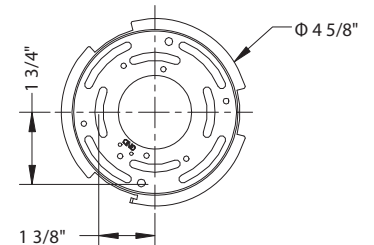

Fig. 3
10. Due to limited space within the canopy, shorten the cable as necessary to make the installation easier. Make sure to identify and label all the wiring properly before any trimming/shortening. (Fig. 3)
12. Connect the driver input/output wires with junction box wires as shown in Fig.3, making sure that all wire connectors (A) (B) are secured. If your outlet box has a green or bare copper ground wire, connect the fixture's ground wire to it. Otherwise, connect the fixture's ground wire directly to the mounting plate using the green screw provided. After wires are connected, tuck them carefully inside the junction box.
13. Secure the fixture to the mounting back plate using the mounting screws (C).